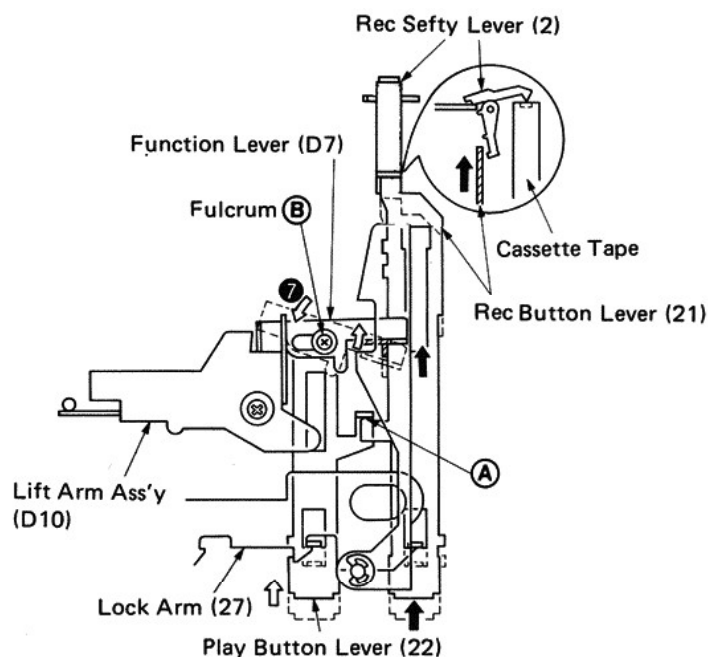

Fig. 30
- 1 When a cassette tape is mounted in position and the REC button is pressed, the REC button lever (21) and the PLAY button lever (22) are locked by the lock arm (27) since these two levers are interlinked with each other at Point (A).
- 2 When the REC button lever (21) slides the function lever (D7) begins to rotate around the fulcrum (B) in direction ⑦. (Fig. 30)